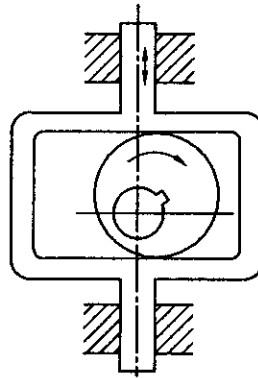

Fig. 8.31
**Positive - return cam :** In all cam systems, the positive contact between the cam and the follower during return stroke is maintained by gravity or by suitable spring. Fig. 8.31 shows a positive -return disc cam with a flat - face follower. The cam must be designed to give same motion characteristics during the outward and return stroke so that the distance between the faces is constant at all times. In order to achieve different motions on the outward and the return strokes with a positive return disc cam, it is necessary to use two discs such that each disc drives in one direction. If the disc cam is circular in shape, and the center of the camshaft is located other than at the center of the circle, the resulting mechanism is the Scotch yoke mechanism.